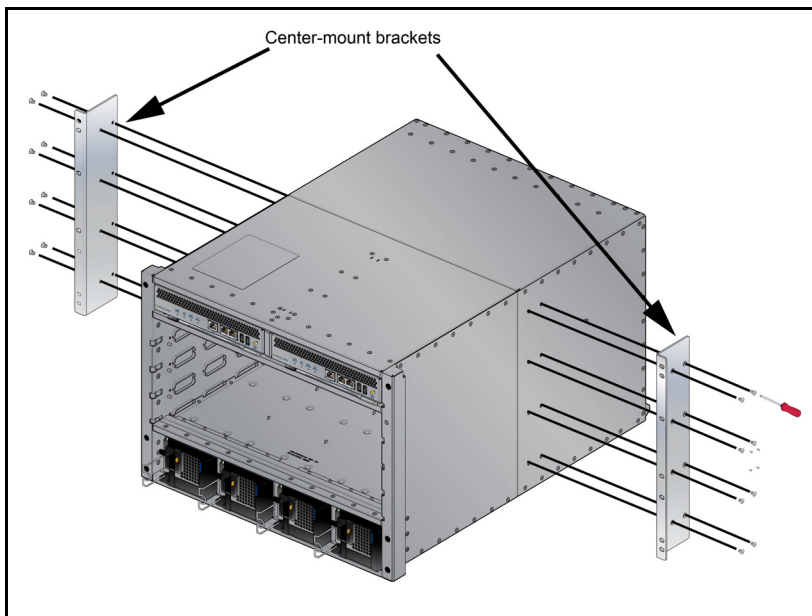

Figure 2: Attaching the Center-mount Brackets
Step 1 Orient the switch chassis and the two center-mount brackets (Figure 2).